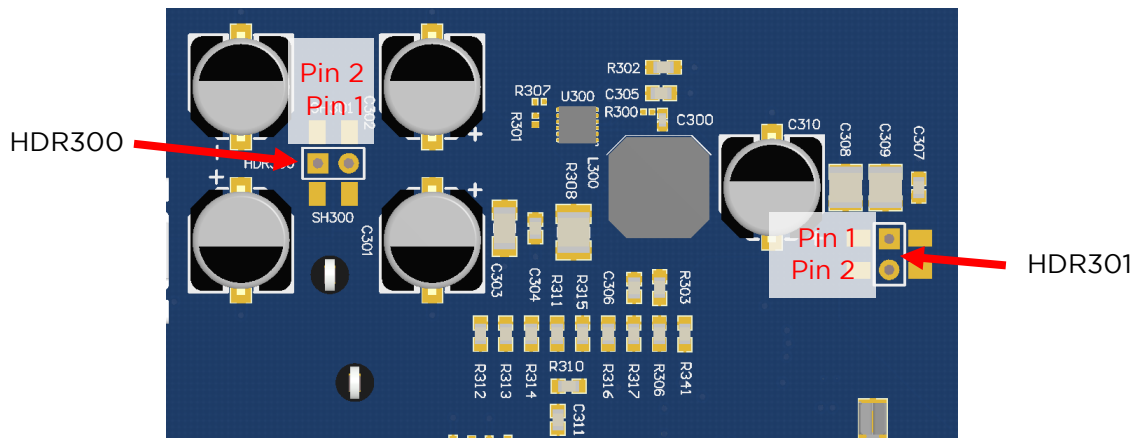

Figure 2: PA BUCK Circuit
1. Remove jumper on HDR300, see Figure 2
2. Remove jumper on HDR301, see Figure 2
3. Install jumper wire from HDR300 pin 1 to HDR301 pin 2, see Figure 2
1. Remove jumper wire from HDR300 pin 1 to HDR301 pin 2, Figure 2
2. Install jumper on HDR300, see Figure 2
3. Install jumper on HDR301, see Figure 2